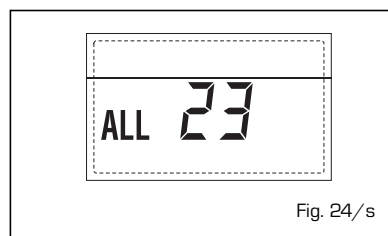

Fig. 24/s
**- NUMBER OF CONNECTED BOARDS ANOMALY "ALL 29"** (fig. 24/y)